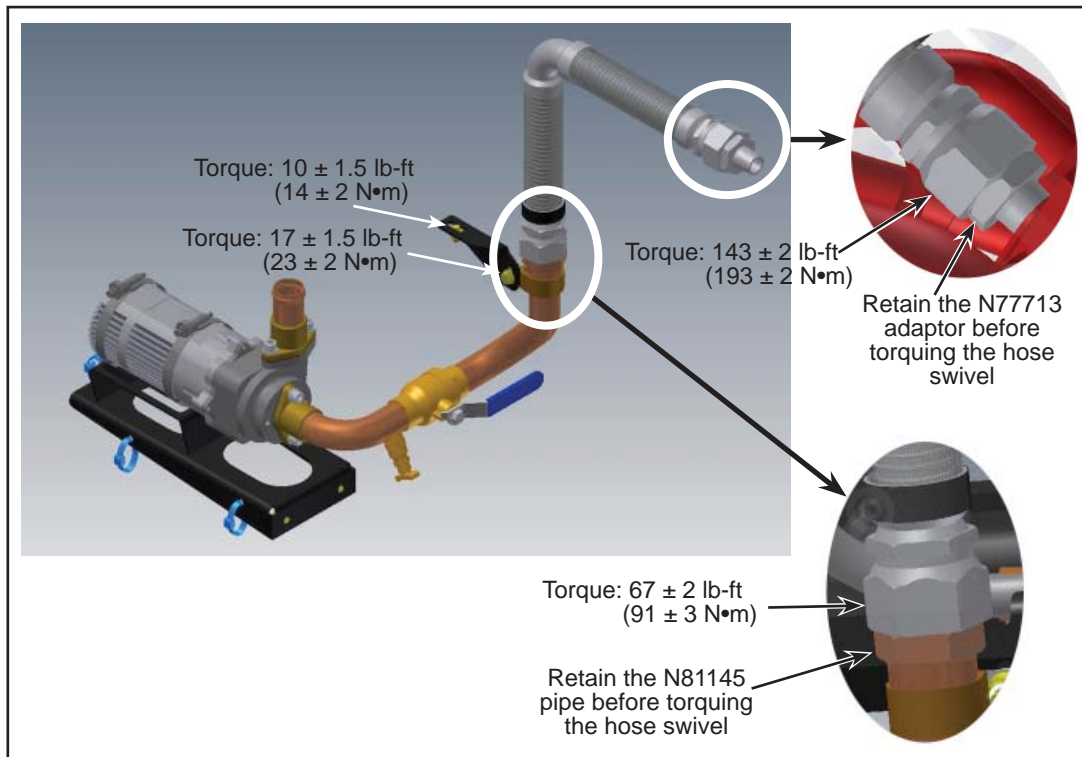

Figure 6 - Specified Torque Values
1.9. Install N81146 hose to N81145 pipe and N77713 adapter. Torque to specified value. See Figure 6.
- 1.11. Install N81147 bracket support pipe with N44888 nut and install N313320-10 clamp with N44882-03 screw and N44888 nut. Torque to specified value. See Figure 6.